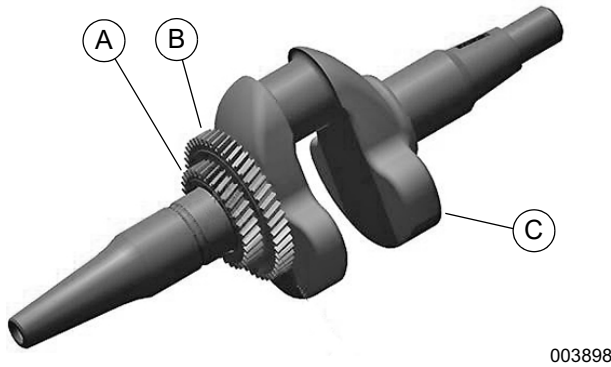

Figure 14-5. Crankshaft With Gears
1. See Figure 14-5. Verify camshaft gear (A) and balancer drive gear (B) are on the crankshaft (C) with teeth aligned as shown.